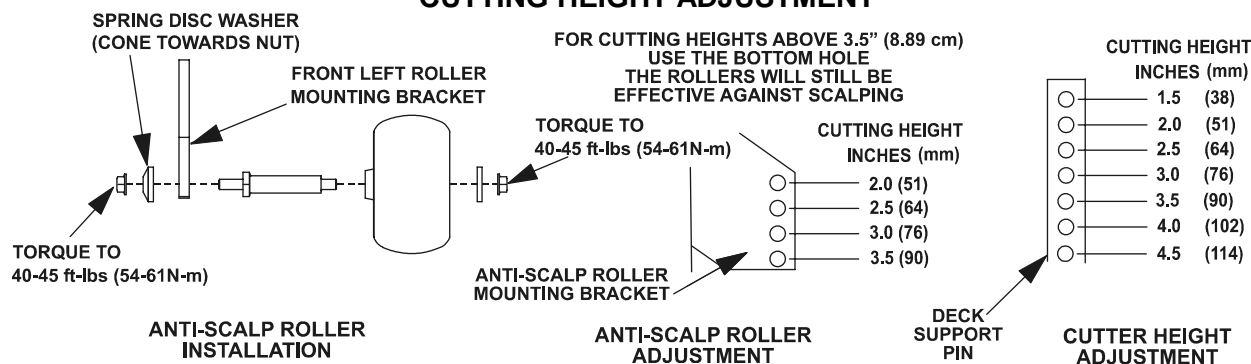

FIGURE 10
- c) Adjust anti-scalp rollers For Normal Operating Conditions. Stop engine and wait for all moving parts to stop. Place rollers in one of the positions shown in Figure 10. Rollers will maintain 3/4 in. (1.9 cm) clearance to the ground to minimize gouging and roller wear or damage. **For Maximum Deck Flotation**, place rollers one hole position lower. Rollers should maintain 1/4 in. (.64 cm) minimum clearance to ground.
- d) When operating in extremely rough conditions it may be necessary to position the anti-scalp rollers one or two holes higher than described in "c" to prevent damage to the rollers and/or bolt failure (See Figure 10).